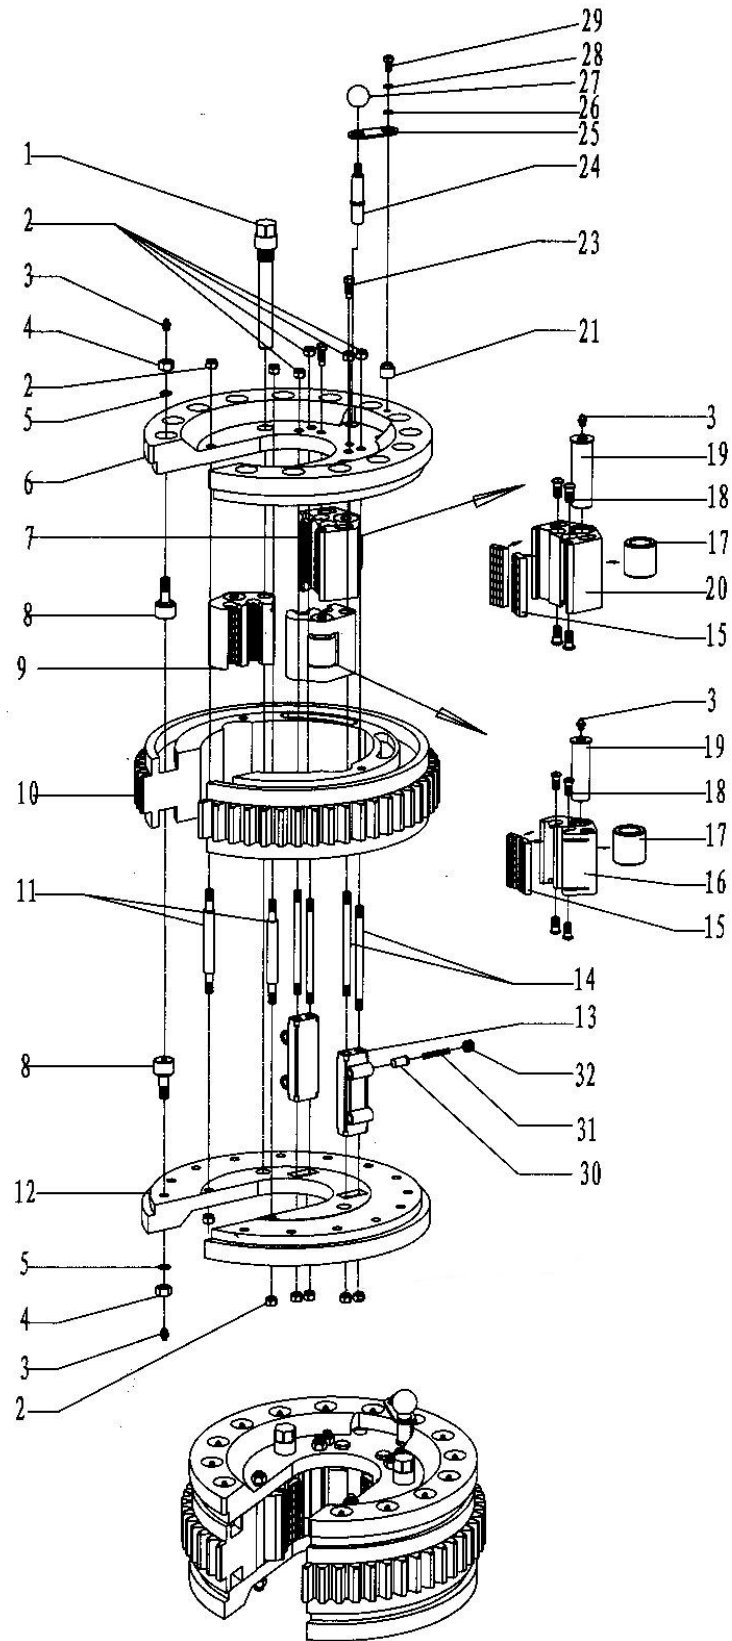

Fig. 6
8. Assembly of tong head (Fig 6, Table 3)
- Assembly of tong head (**Fig 6, Table 3**)